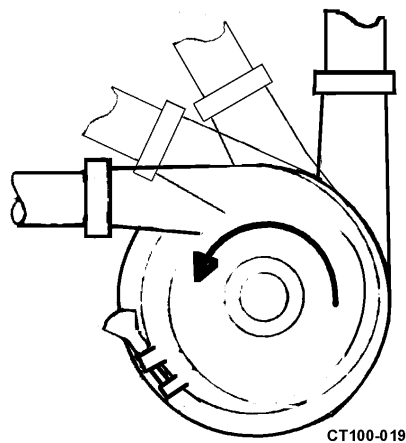

Figure 6 - Recommended Discharge Positions
- The pump casing may be rotated with the discharge connection pointing in any direction; the best pump performance will be with the outlet up, to the left, or positions in between. These positions ensure a flooded casing and prevent problems caused by air in the system. See Figure 6.
- Check the pump rotation following an electrical installation. The correct direction of rotation is counterclockwise when facing the pump inlet connection. See Figure 6 on page 14.